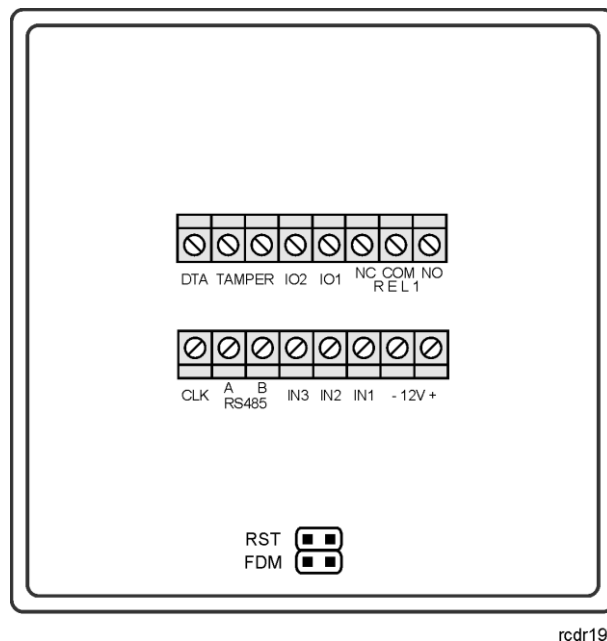

Fig. 6 Location of FDM and RST pins inside PR821-CH controller enclosure
- Install devices in such way as to ensure easy access to screw terminals and jumpers (RST, FDM) located inside the controller – see fig. 6.
- Restart the controller (place and remove jumper on RST contacts – see fig. 6 or switch power supply off/on) - continuous acoustic signal shall be generated
- Place jumper on FDM pins (see fig. 6)